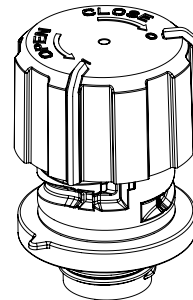

Fig.5
- By further turning the cover anticlockwise following the OPEN arrow, it is possible to remove the cover from the threaded connector, thus allowing the operator to clean the two components or to substitute or clean the "tech-foam" filter (fig. 5).